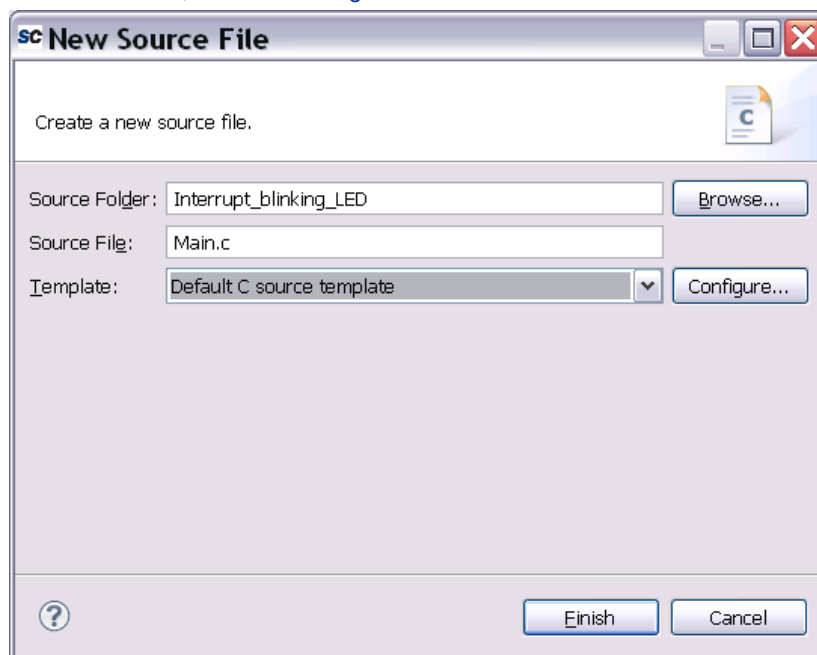

Figure 27 Name the Source File
11. Name it as **Main.c**, as shown in Figure 27.